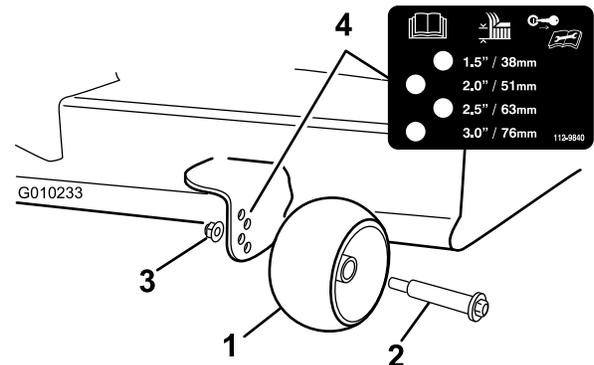

Figure 29
3. Remove the flange nut, anti-scalp roller and bolt from the bracket (Figure 29).
4. Align the bolt and anti-scalp roller in the hole of the bracket that matched the closest height of cut position (Figure 29).
5. Insert the bolt into the bracket hole and secure the bolt and anti-scalp roller with the flange nut (Figure 29).